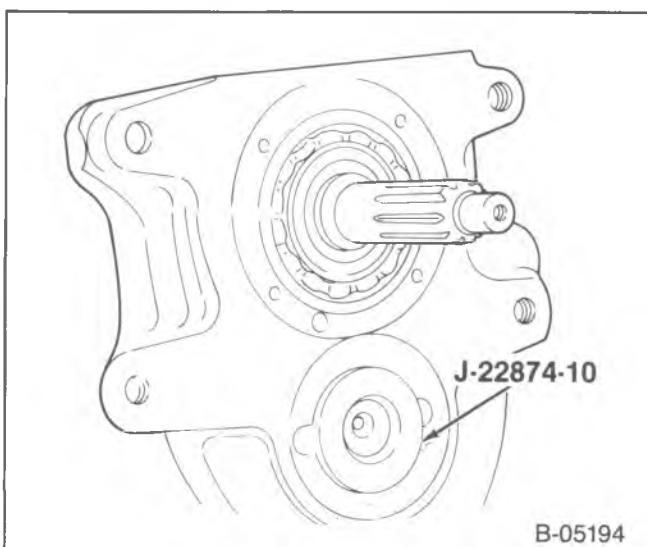
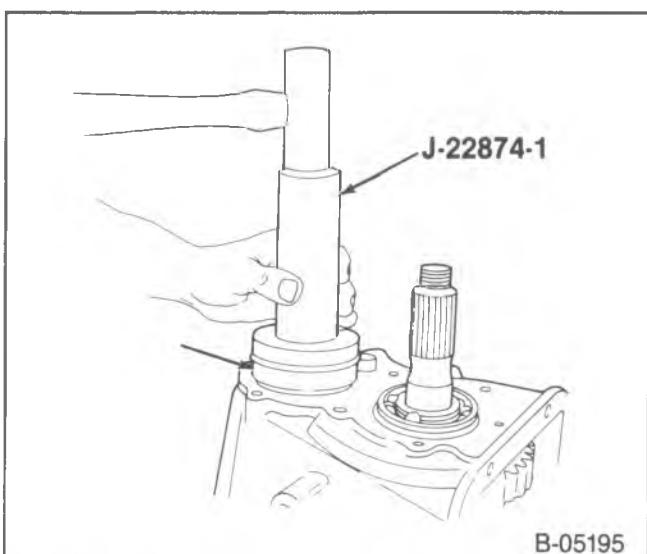

Figure 56—Tool J-22874-10 Installed
Figure 57—Installing the Countergear Rear Bearing
7. Bearing retainer (202) and a new gasket.
8. Countergear rear bearing (228).
- Support the front of the countergear using J-22874-10, (figure 56).
- New snap ring (225) onto the bearing.
- Drive the bearing onto the countershaft until the snap ring is flush with the case, using J-22874-1, (figure 57).
9. New bearing retainer snap ring (226).
10. Countergear front bearing (237).
11. Cover (238) and a new gasket.
12. Speedometer gear (219).
13. Rear bearing retainer (223) and a new gasket.